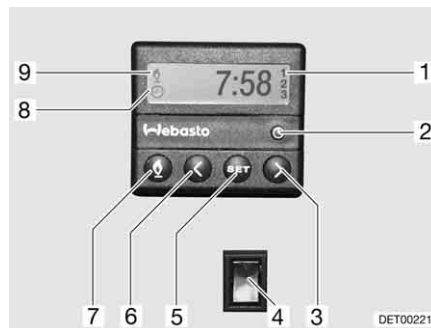

Fig. 170 Operating unit for independent vehicle heater
- Press the button (Fig. 170,7). The heating mode is displayed by the symbol (Fig. 170,9). The fan will only be switched on when there is a coolant temperature of 30 °C.
- Press the button (Fig. 170,7). The symbol (Fig. 170,9) goes off.
- Press the lower part of the switch (Fig. 170,4). Engine is preheated. The fan is switched on immediately.
- Press the upper part of the switch (Fig. 170,4). Engine stays cold.
- Press the button (Fig. 170,2). The time setting is displayed by the symbol (Fig. 170,8).
- Set the time with the buttons (Fig. 170,3 and 6).
- Press the button (Fig. 170,5).
- Set the switching on time within ten seconds, with the buttons (Fig. 170,3 and 6).
- Keep pressing the button (Fig. 170,5) until the selected programme number (Fig. 170,1) appears in the display.